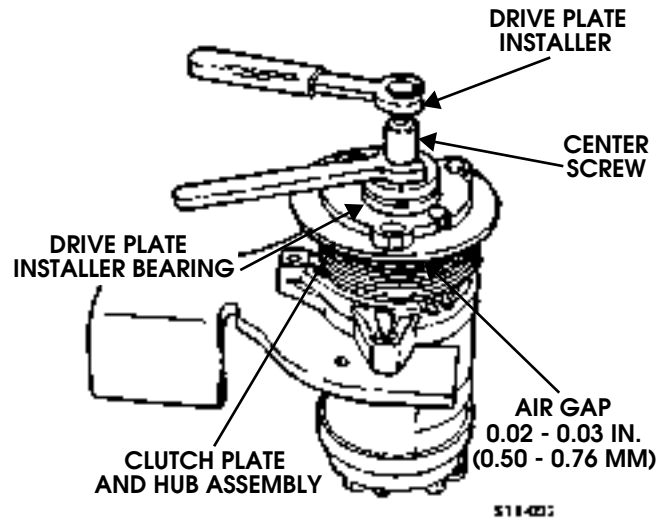

Figure 11-29: Drive Plate Installation
4. Remove the forcing tip on clutch plate and hub assembly installer/remover center screw and reverse the body direction on the center screw (Figure 11-29).